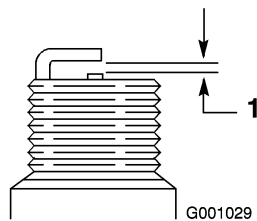

Figure 46
4. Set the gap between the electrodes on the spark plug at 0.030 inch (0.76 mm) (Figure 46).